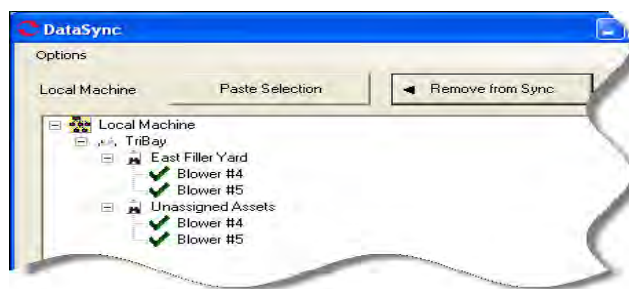

Figure 4-45: DataSync Window - Field Tester Network
3. Click the DataSync  icon on the tool bar. The DataSync window shown in Figure 4-45 opens.